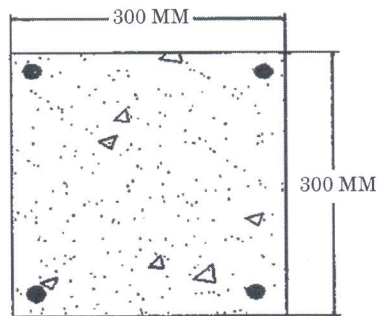

Fig. 2
- (b) A reinforced column 300 mm has four bars of 20 mm diameter and length 4 m. Determine the stresses in steel and concrete due to 25°C rise in temperature, if the coefficient of expansion are $23 \times 10^{-6}/^\circ\text{C}$ for steel and $10.8 \times 10^{-6}/^\circ\text{C}$ for concrete. Assume $E_{\text{steel}} = 210 \text{ GPa}$ and $E_{\text{concrete}} = 22 \text{ GPa}$ (Fig. 2) [8]